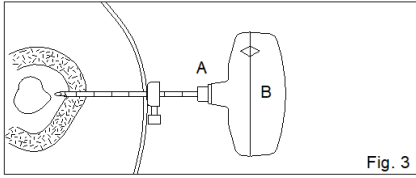

Fig. 3
**FIG. 3** With careful but firm turns, rotate the Cutting Cannula and Stylet (A+B) clockwise until the depth gauge reaches the skin and/or desired position is obtained. Firmly hold the Cutting Cannula (A) and remove the Stylet (B).